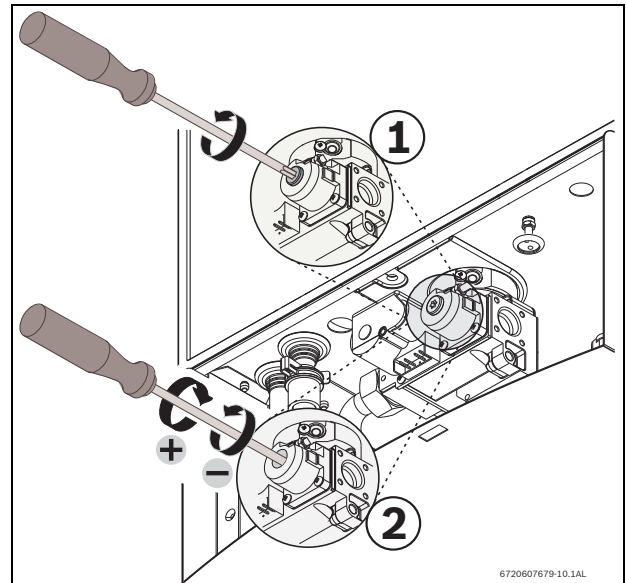

Fig. 18 Adjusting P2 CO2 level
- ▶ Remove yellow painted #40 Torx cover from the front of the gas valve. (Fig. 18, pos.1) A plastic #40 Torx screw will be revealed.
- ▶ Turning the plastic #40 Torx screw counter clockwise will lower P2 CO2 levels and clockwise will raise P2 CO2 levels. (Fig. 18, pos. 2).